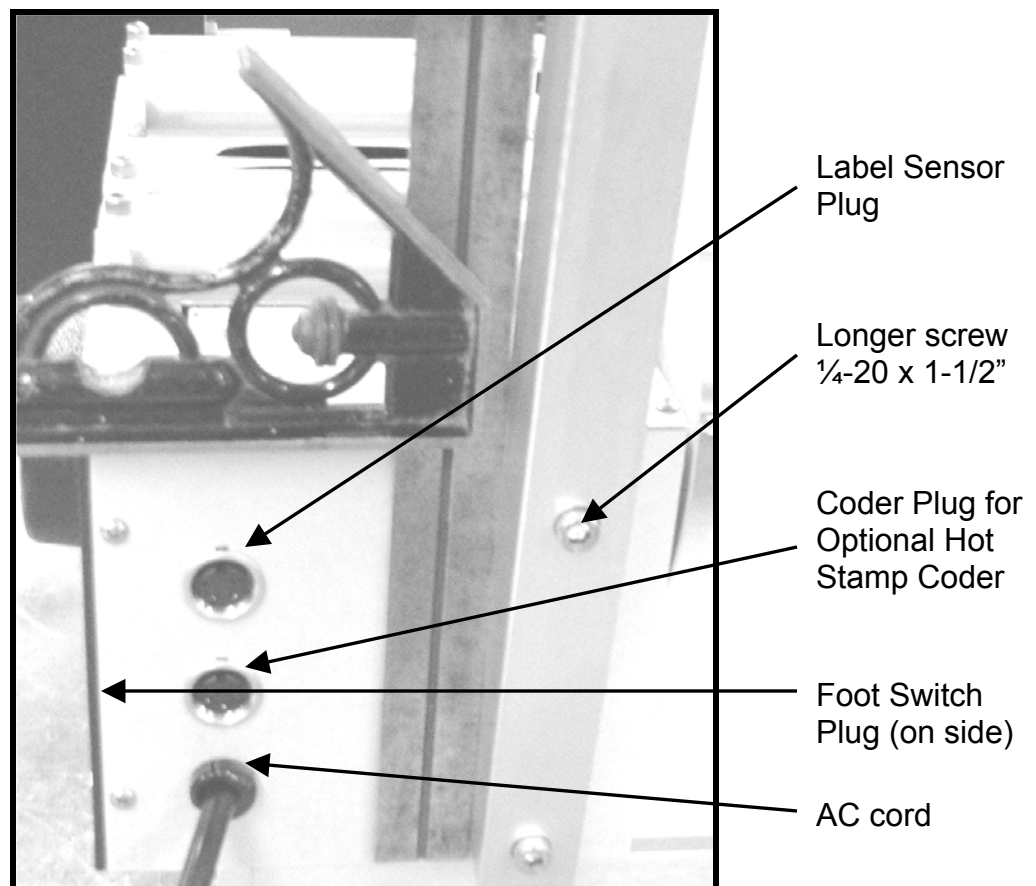

Fig 2
4. Using a Square, mount the Unwind Assembly as shown below in Fig 2. The Long screw (1/4-20 x 1-1/2") goes in the top hole. The shorter screw (1/4-20 x 1-1/4") is in the bottom.